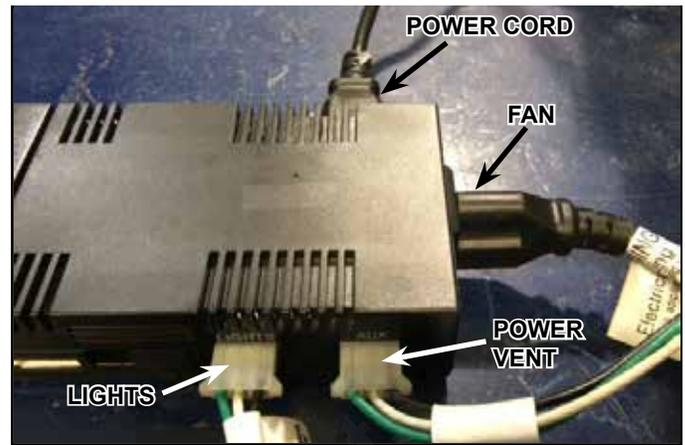

Figure 3. Fan, Lights and Power Vent Connection
- To connect a fan kit to the IFT-ACM, insert the three prong male plug from the fan into the receptacle located on the right side of the IFT-ACM. See Figure 3.
- To connect a light kit to the IFT-ACM, remove protective rubber cap labeled 'LIGHTS' and connect to the female cord that was supplied in your lights kit into the three male pins on the IFT-ACM. DO NOT touch the three male prongs with your bare hands as this can be a shock hazard. See Figure 3.
- To connect a power vent kit to the IFT-ACM, remove protective rubber cap labeled 'AUX' and connect to the female cord that was supplied in your power vent kit into the three male pins on the IFT-ACM. DO NOT touch the three male prongs with your bare hands as this can be a shock hazard. See Figure 3.